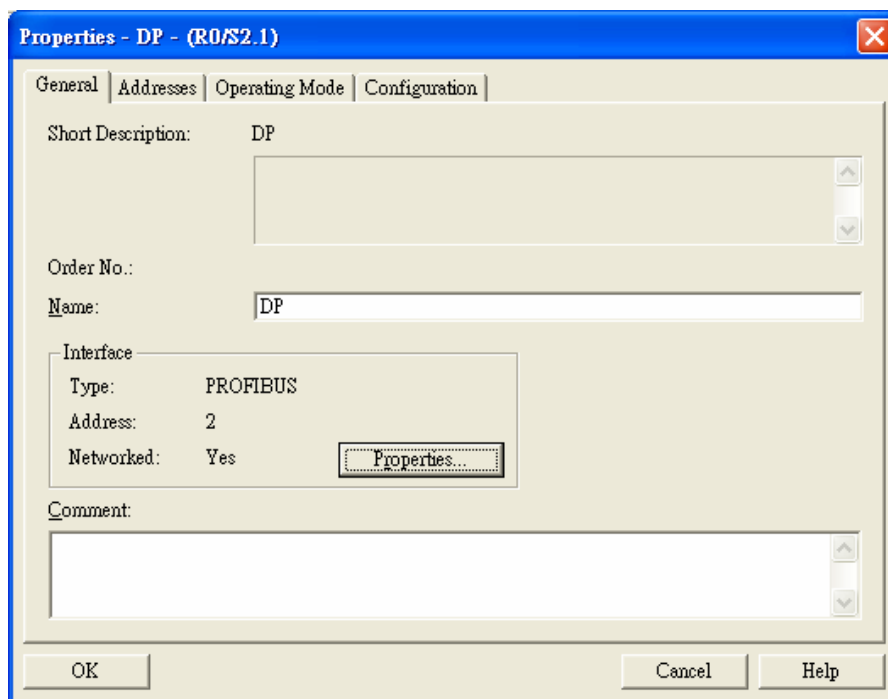

Figure 10-15
7. In this successive dialog box, confirm all information for the DP bus and click "OK", as Figure 10-15.